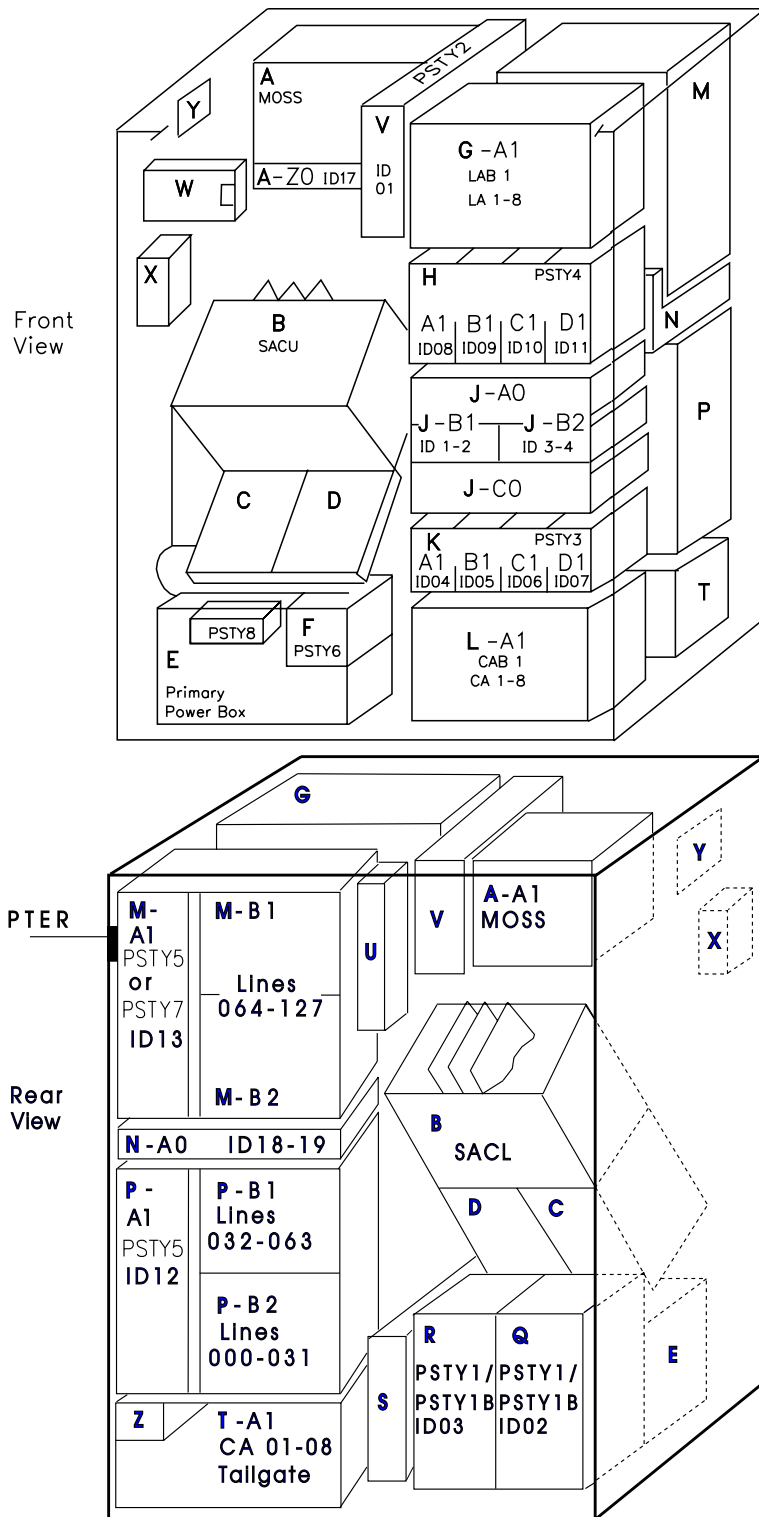

Figure 4-149. Frame 01 Front and Rear View
4. Refer to Figure 4-149 on page 4-163 to locate the SAC boards (SACU and SACL).